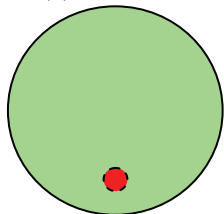

FIGURE 1
When the unit is ON user may see a circular indicator through the eyepiece (Fig. 1). It is hardly noticeable when not active.
Take off the lens cover from the lens (6). Turn on the device using switch. If lighting is insufficient, turn on the IR illuminator (1) by turning switch. The red indicator (Fig. 1) will go on. IR illuminator is effective when observing an object located not far from the viewer.